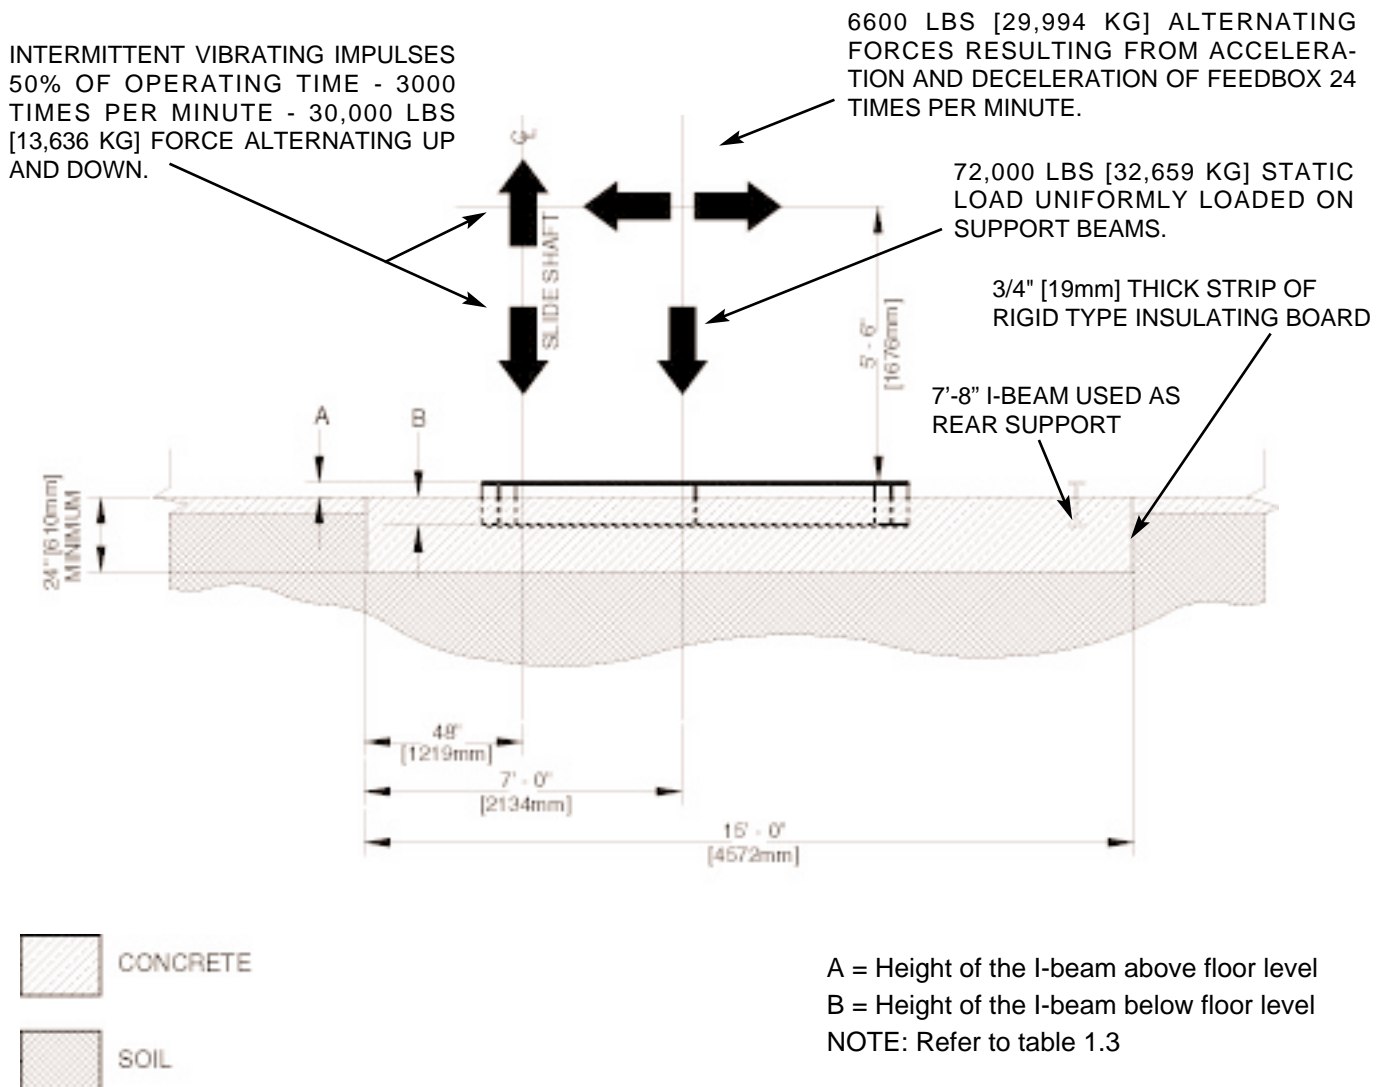

Figure 1.1 SIDE ELEVATION.
1. The framework should be prepared according to specifications presented in figure 1.1, 1.2 and 1.3.
3. The length, width and thickness of the foundation specified in figures 1.1 and 1.2 represent minimum dimensions. The SUPERPAC foundation can be increased in length, width or thickness to accommodate existing soil conditions.